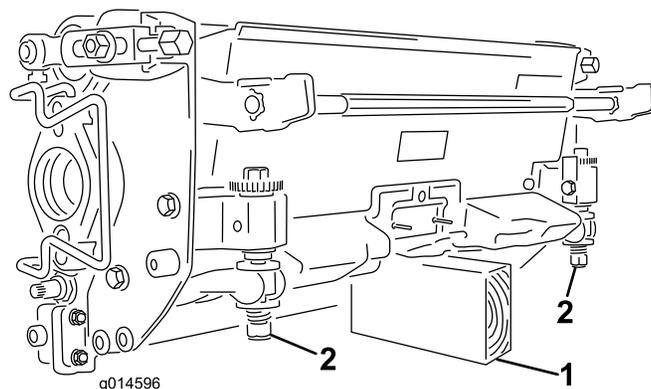

Figure 50
**Important:** Whenever you need to tip the cutting unit, prop up the rear of the cutting unit to ensure that the nuts on the bedbar adjusting screws are not resting on the work surface (Figure 50).